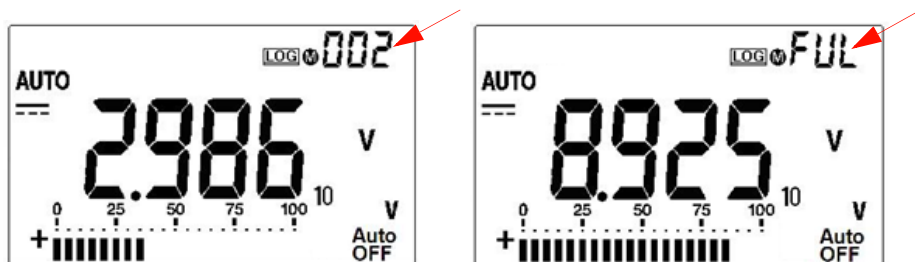

Figure 2-1 Manual logging display
- 2 Press  (Log) again for the next value that you want to save into memory, see Figure 2-1.